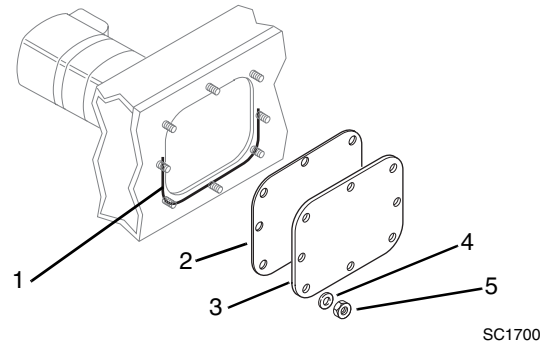

Figure 5-61 Cover Installation
15. Clean any sealer residue from the lower part of the side cover opening (Fig. 5-61, 1). Apply a new 1/8" bead of sealant (1) such as Permatex 2 RTV around the lower half of the opening (1).
16. Reassemble the cover gasket (2) and cover (3) to the side of the chain case using the original washers (4) and new hex locknuts (5). Torque the eight locknuts to 14 lb/ft (19 Nm).